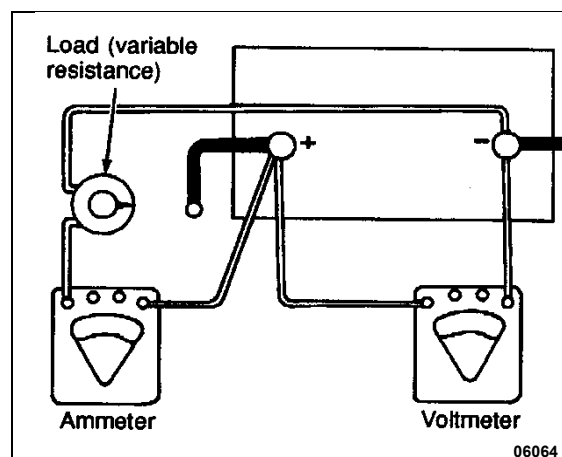

FIGURE 56: LOAD TEST
2. Connect a voltmeter, ammeter, and a variable load resistance as illustrated in Figure 56.